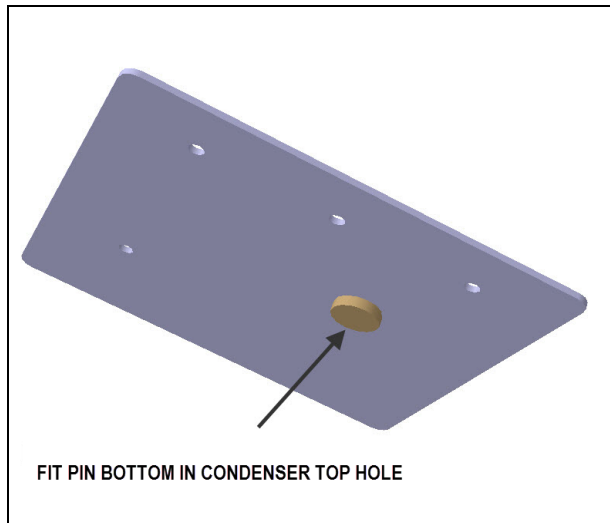

Fig.22
The hole will need to be progressively enlarged to allow the plate installation. Up to 1/2", uses sharp sheet metal bits (with a 135° tip angle) mounted on an electric drill and mount drill stops at the tip of the drills so they will not penetrate more than 1/4" in the condenser core (Fig.15). Enlarge the 1/2" hole to about 1 inch with a carbide bit (the bottom of the reinforcing plate pin (Fig.22) must fit in the hole).
Bottom of the reinforcement plate pin must fit the hole, enlarge the 1 inch hole with a carbide bit as necessary (see Fig.22)
10. With the hole enlarged to one inch, position the reinforcing plate at the condenser top. The bottom part of the plate pin must be inserted in the one inch hole and the edges of the plate must fit flush with the condenser body as shown below (Fig.22 & 23).